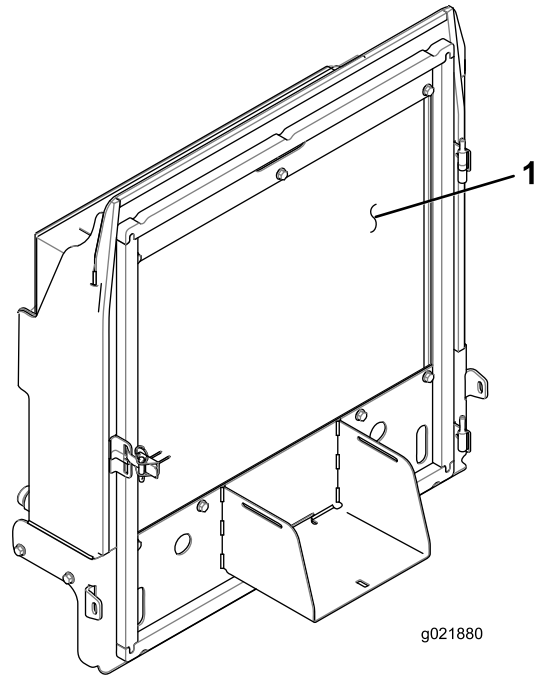

Figure 83
4. Thoroughly clean both sides of the radiator/oil cooler with compressed air (Figure 83).